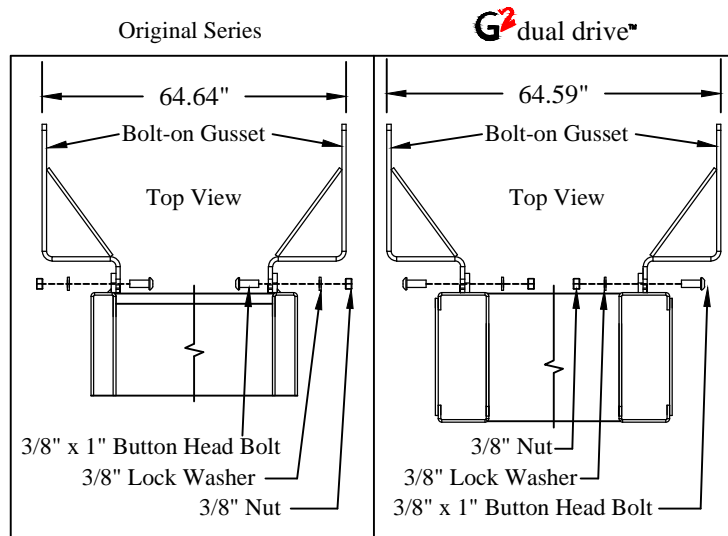

Figure 3: Top view of liftgate bolt-on gussets.
1. **Install** the eight (8) 3/8" x 1" button head bolts, lock washers, and nuts in the position shown for your configuration (Figure 3).
Note: If gussets are already welded to the uprights, verify the gusset dimensions (Figure 3) and you do not need the bolt-on gussets.